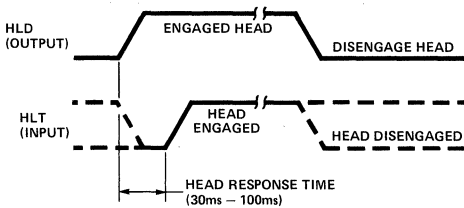

Figure 4. HLD/HLT Timing Example
- HLT (Head Load Timing) — The low to high transition of this input indicates that a sufficient time has elapsed for the drive's head to become engaged. It typically follows HLD going high, by a time delay which is dependent on the particular drive's characteristics. If not available from the drive electronics, this input must be generated by the user (typically by means of one-shot timers). Figure 4 illustrates an example of HLD and HLT timing.